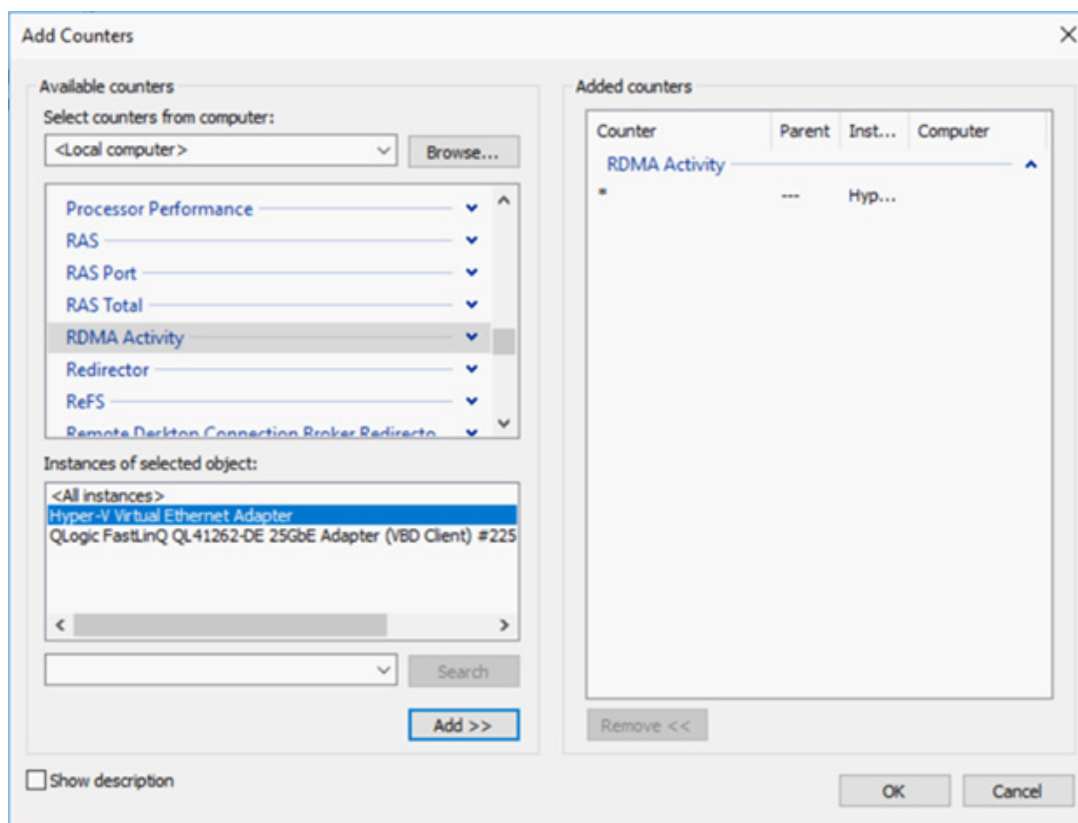

Figure 13-5. Add Counters Dialog Box
2. Complete the Add Counters dialog box (Figure 13-5) as follows: